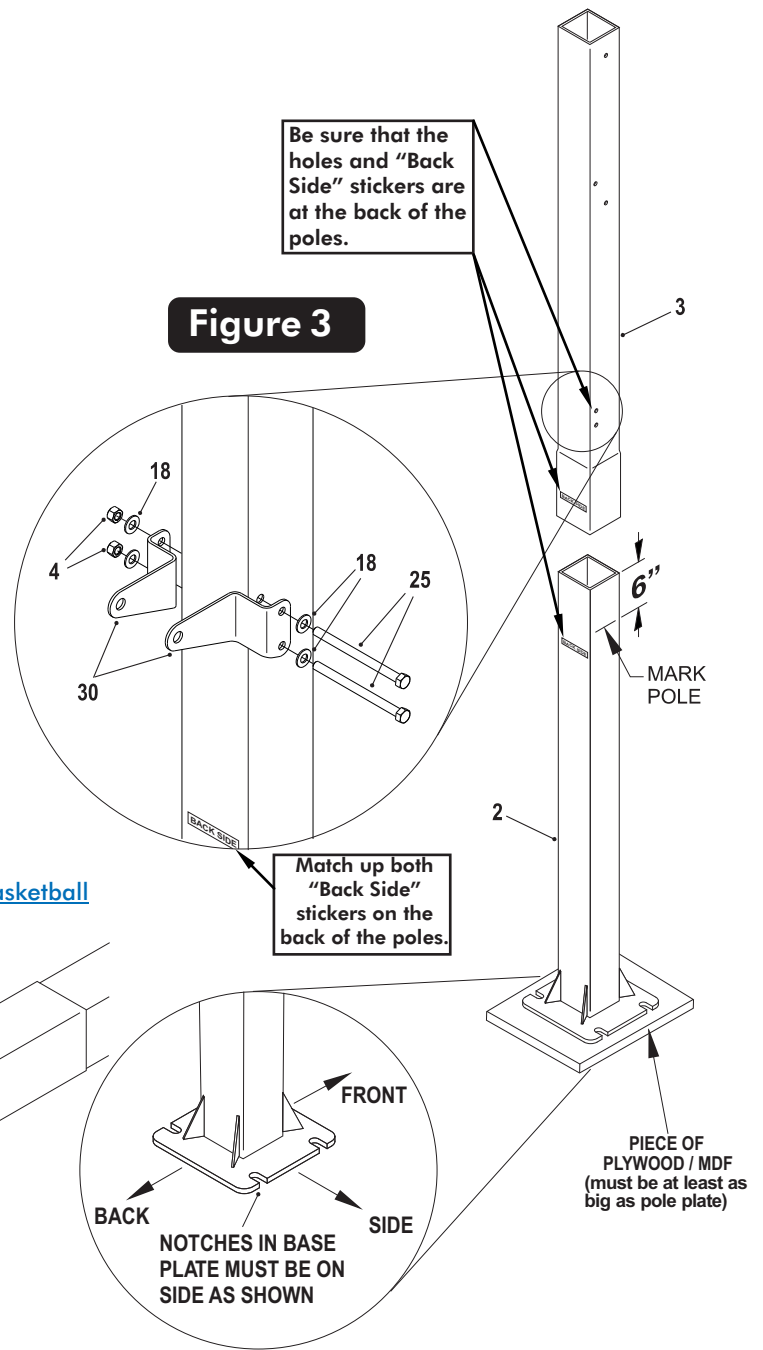

Figure 3
- Before putting any of the poles tubes together, mark bottom pole (#2) 6 inches from the top end. **Be sure that the holes and "Back Side" stickers are at the back of the pole.** See **Figure 3**.
- Align the upper pole (#3) with the bottom pole (#2) as shown in **Figure 3** and slide them together. Stand poles up on a piece of MDF or plywood, **lift poles up by bottom pole** below the 6" mark you made and slam down the bottom pole as many times as needed on a piece of MDF or plywood **until the bottom of the upper pole reaches the 6" mark** on the bottom pole. This is a friction-locking joint and requires no hardware.
- Attach Post Ears (#30) to holes near the bottom of Top Post (#3) using two hex bolts (#25) four washers (#18) and two lock nuts (#4). See **Figure 3**.